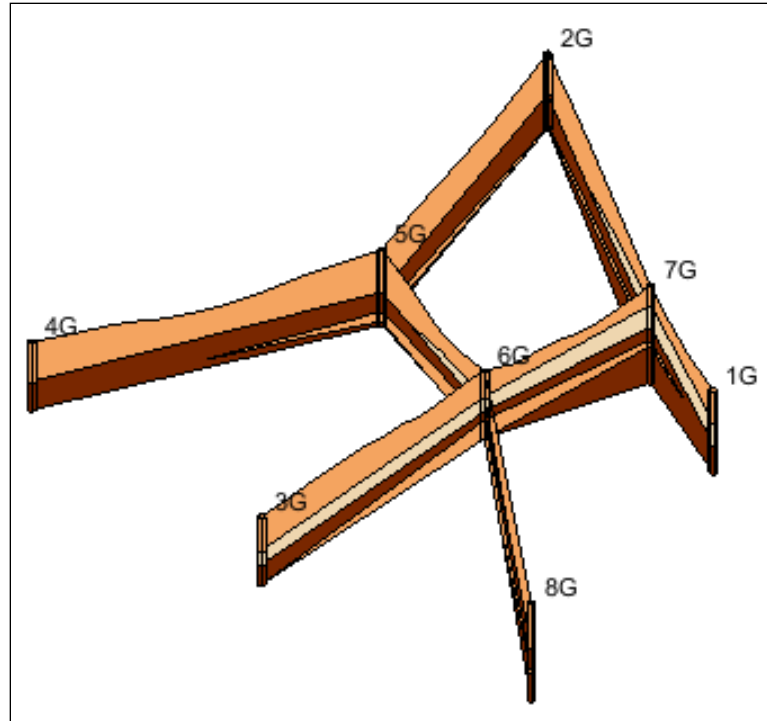

Figure 1 Imported project
6. Select **Open** to import the project (Figure 1) and close the *Open* dialog.